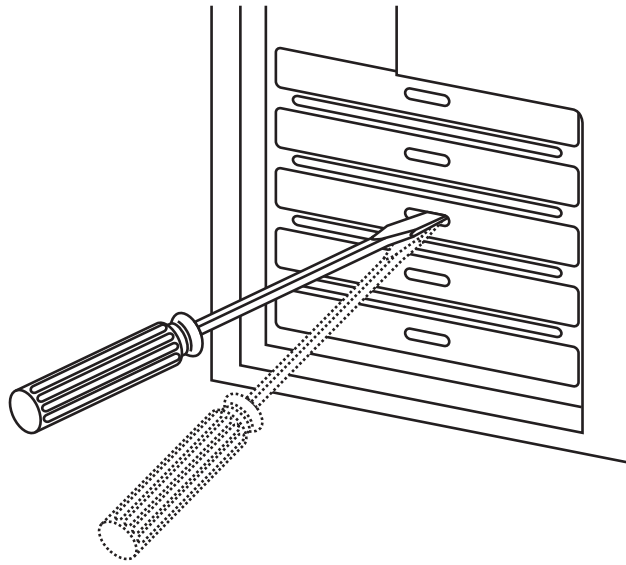

Figure 3-2. Removing the faceplate from PCI slot.
2. Remove the system cover and select any empty PCI Express slot. See Figure 3-2. If you do not know how to identify a PCI Express slot, refer to your system documentation.
3. Select an empty, non-shared PCI Express slot and remove the faceplate. Keep the faceplate in a safe place. You may need it for future use. See Figure 3-2.